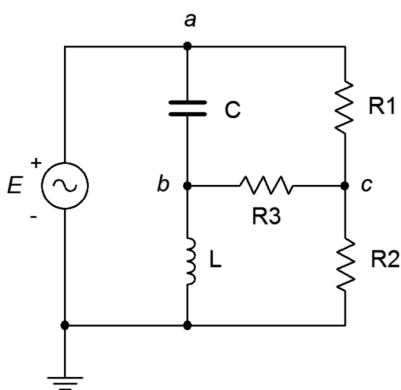

Figure 5.35
61. Find voltage v_{bc} in the circuit of Figure 5.35 through the use of one or more delta-Y conversions. $E = 10\angle 0^\circ$, $R_1 = 1\text{ k}\Omega$, $R_2 = 2\text{ k}\Omega$, $R_3 = 3\text{ k}\Omega$, $X_C = -j4\text{ k}\Omega$ and $X_L = j8\text{ k}\Omega$.